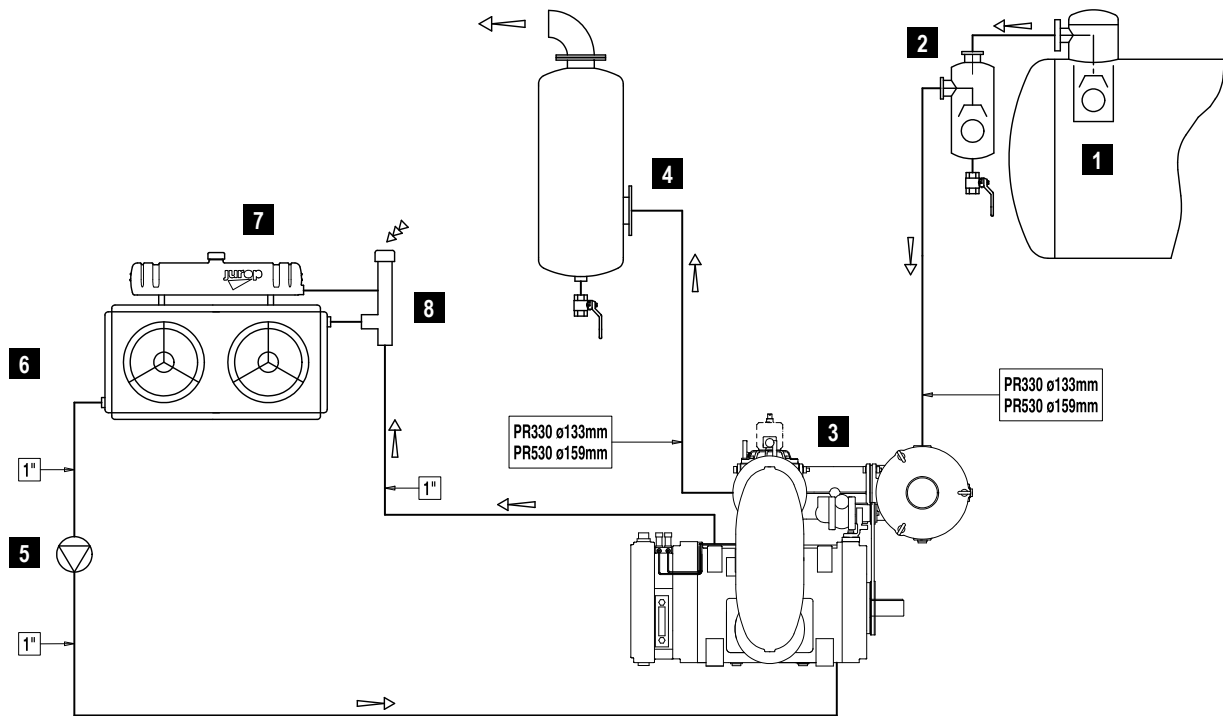

Fig. 1
■ Il diagramma *fig. 1 e 2* riporta lo spettro del rumore a 456 mm Hg (60% di vuoto) a 7 m di distanza a diversi regimi di rotazione. In tali condizioni il valore di riferimento è:
■ The diagrams *fig. 1 and 2* show the sound analysis of PR vacuum pumps measured at 456 mm Hg (60% vacuum) at 7 m distance for several speed of rotation. In such conditions the reference value is:
With the hydraulic transmission the motor must be mounted by means of a support and a flexible joint. (See fig. 1).
In order to avoid the intake of liquids, the pump must be protected by a primary shutoff mounted on top of the tank and a secondary shutoff mounted along the suction line both with an overfloating device. (See fig. 1 - Pos. 1-2).